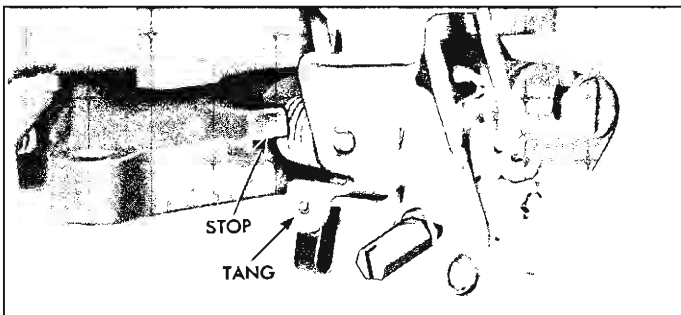

Fig. 19—Checking Throttle Linkage Adjustment—Rochester Four-Barrel
- **Throttle Linkage Adjustment**—Depress accelerator pedal to floor and check to see that throttle stop tang (fig. 19) contacts throttle body (throttle valves wide open). If contact is not made, disconnect throttle rod from carburetor, depress